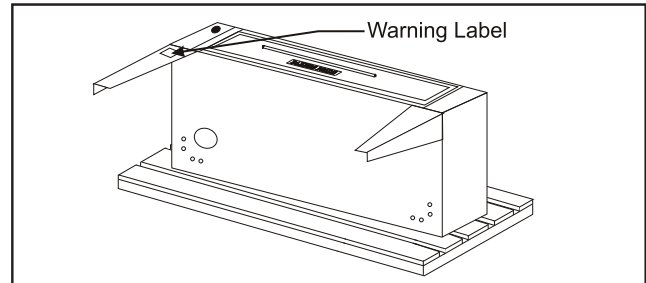

Figure 1
- a) **Legs are shipped in a separate carton complete with mounting bolts and washers. Firmly bolt two legs (in case of casters, the two with the brakes must be used here) to the upper two corners (front) of the oven as it rests on the pallet. Note: (See Fig. 1).**